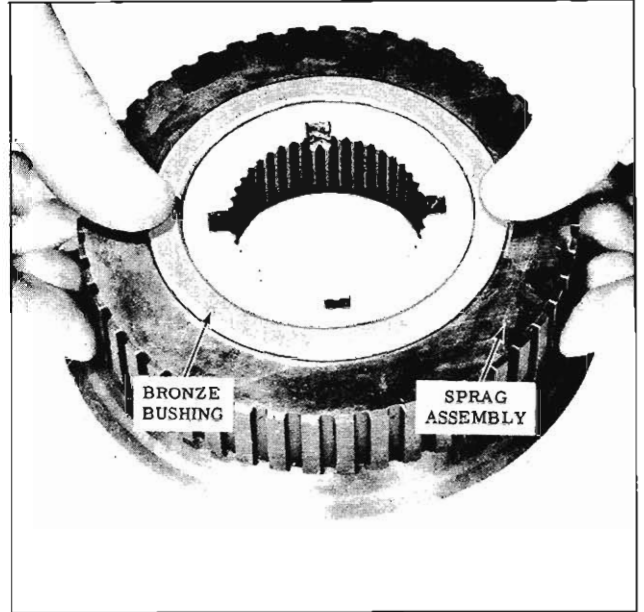

Fig. 6-82 Installing Bushing
5. Install second bronze bushing, cup side down, against sprag assembly. (Fig. 6-82)